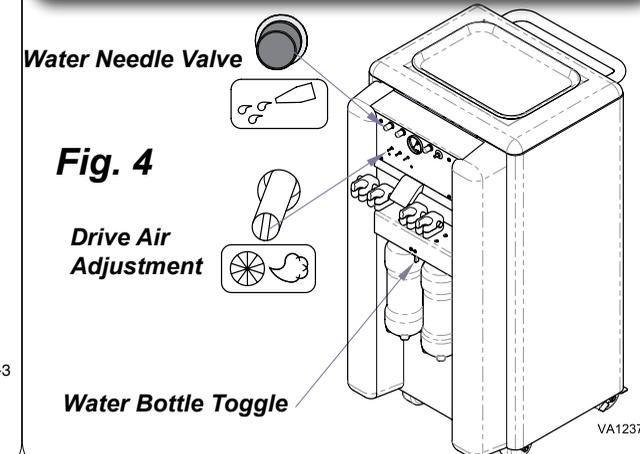

Fig. 4
3. Check air. (Fig.4) Low speed handpiece should operate at 35-50 psi.
4. Check air and water. (Fig 4) High speed handpiece should operate at 32-40 psi.